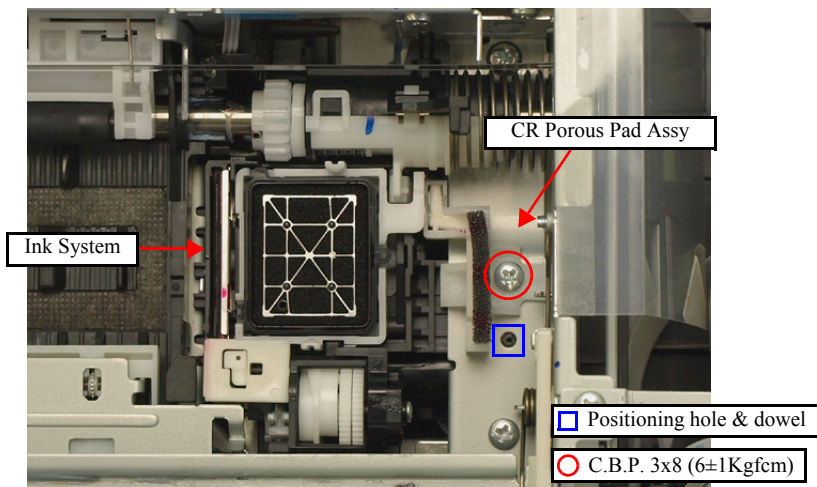

Figure 4-85. Removing the Ink System (1)
4. Align the dowel of the Ink System with the positioning hole on the Main Frame. (See Fig. 4-85.)